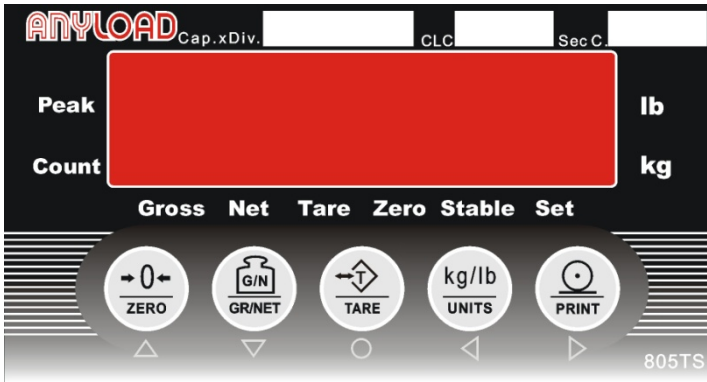

Fig. 4.1 Front Panel Configuration for 805TS series
Fig.4.1 and Fig.4.2 shows indicator display, LED/LCD indicator lights and keypad configuration. Signs at the bottom of the keypad are for configuration operation use (refer to Section 9 for details).
When in Count Mode, press **【PRINT】** to go to Input Item Code status. Display shows “P= xx”, where xx is the code number of the current count item and x flashes. Now the functions of the keypad become , , , , . ,  are for moving forward and backward while ,  are for increasing and decreasing the digits. After done with Input Item Code, press the  key if the stored Item Code is not 0. Item Code of the current count items is then stored and the keypad returns to normal operating functions as shown in Fig. 4.1 (805TS series) and Fig.4.2 (805BS series).
- Combine a few count items to become one count item. Place the same quantity of count items to the scale as per the sample quantity set in (3) above. Press  to calculate the average weight.
(5) On the Weighing mode, keypad functions are according in Fig.4.1 (805TS series) and Fig.4.2 (805BS series).